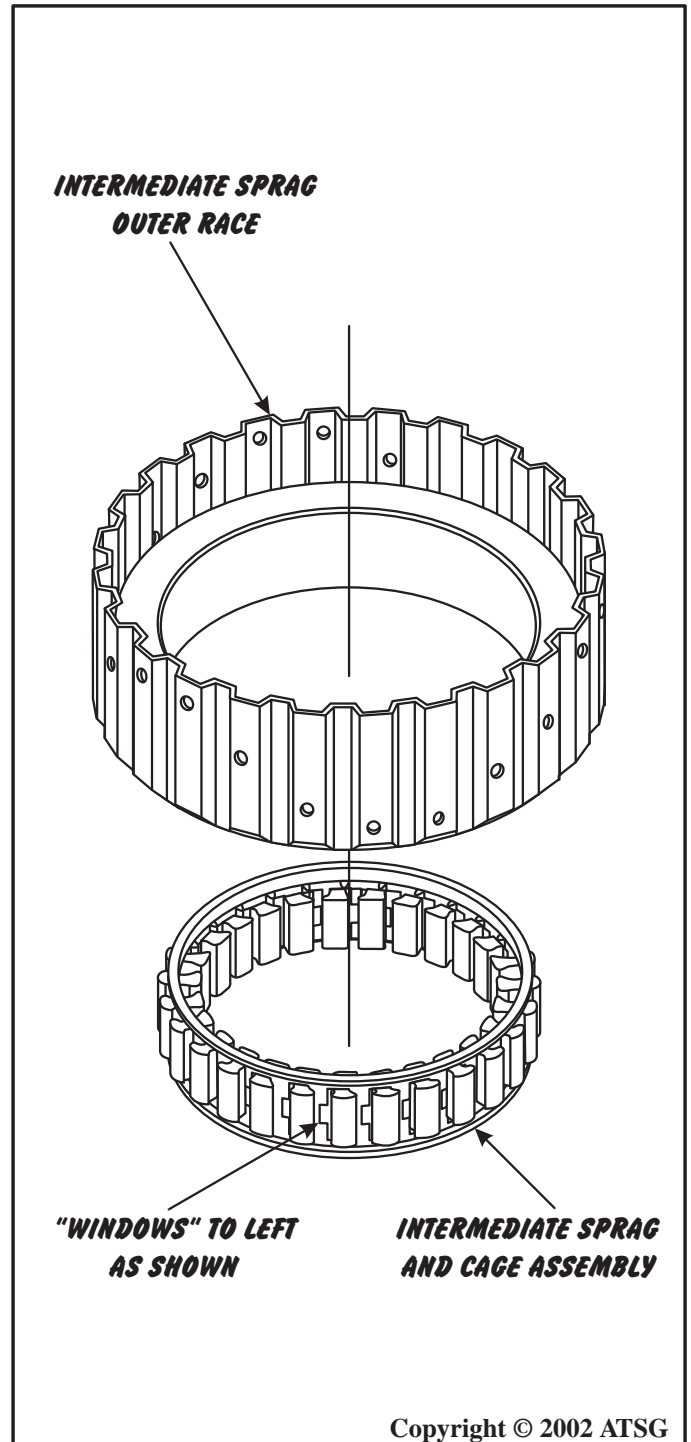

Figure 108
9. Install the intermediate sprag cage assembly in the outer sprag race *exactly* as shown in Figure 108, with the "windows" to the left, and ensure that the outer race is arranged as shown. Refer to Figure 108.